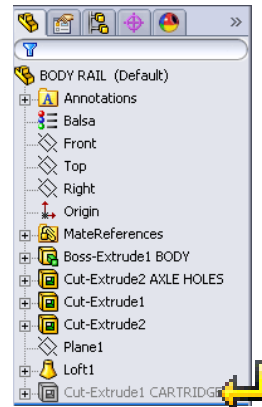

Fig. 68
Step 1. In the Feature Manager move the suppressed **Cut-Extrude1 CARTRIDGE HOLE** below Loft1 feature, **Fig. 68**. To move the feature, drag **Cut-Extrude1 CARTRIDGE HOLE** down, when the yellow pointer  is over Loft1 release.